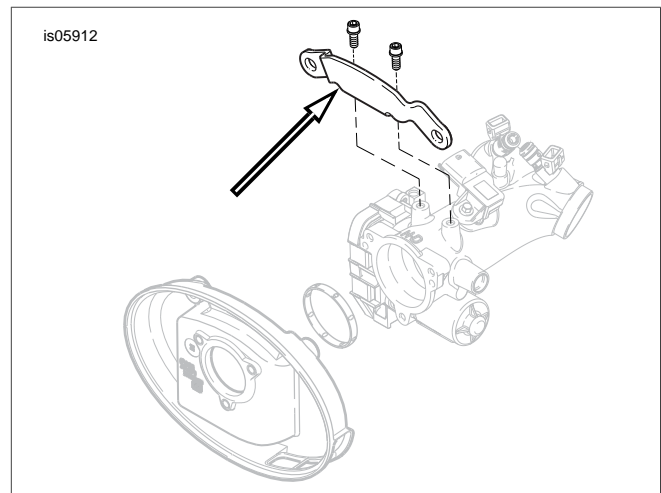

Figure 1. Remove Induction Module Support Bracket
2. Remove the existing air cleaner backplate. Refer to the service manual. Save the original equipment (OE) button head screw that secures the air cleaner cover. Discard the remaining parts.
4. See Figure 1. Remove and discard the induction module bracket.